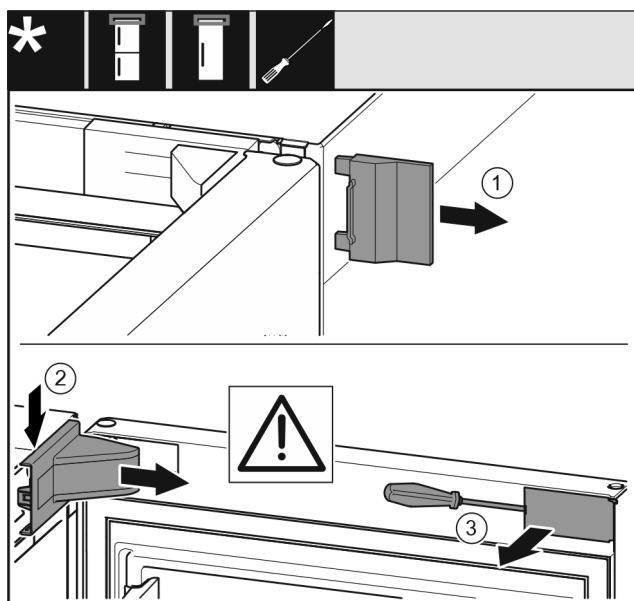

Fig. 9
- ▶ Remove the outer cover. Fig. 9 (1)
- ▶ Disengage and release the bearing bracket cover. Remove the bearing bracket cover. Fig. 9 (2)
- ▶ Unlatch the panel with a slotted screwdriver and swivel it to one side. Fig. 9 (3)